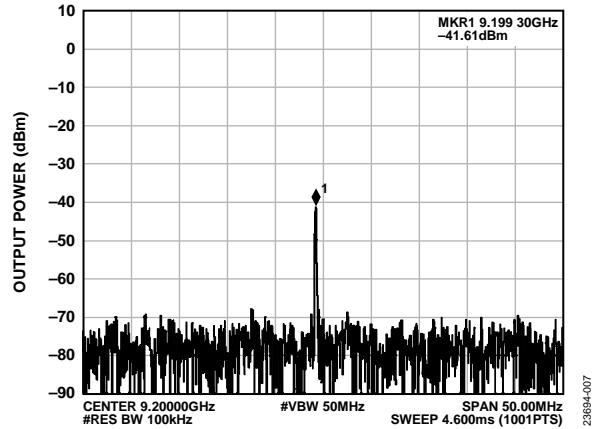

Figure 5. EV1HMC8074LP6G RF1 Output at VCO Band 1, VTUNE = 8.45 V, 9.2 GHz, Buffer Amplifier Disabled (RF1 Output Muted)
Figure 5 shows the HMC8074 with VC1 enabled and the output buffer muted (VCB\_EN = 0).
2. Remove the bias for the buffer amplifier (VCB). This removal decreases the output power by approximately 28 dBm. Refer to Figure 5.